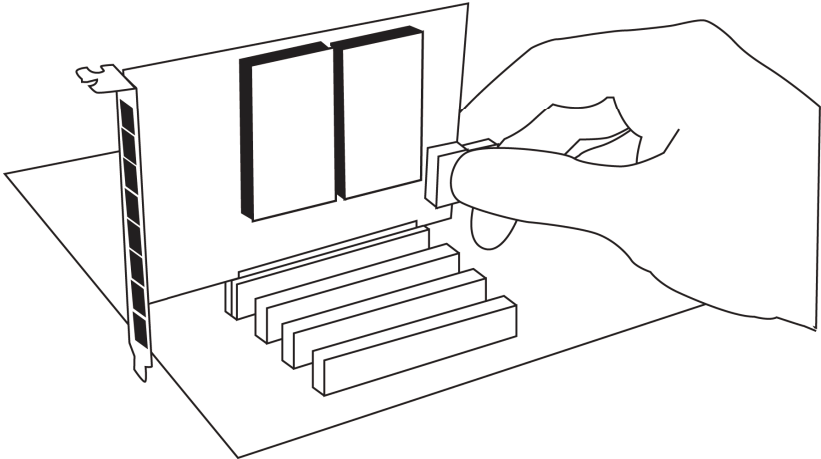

Figure 10: Connect Power for FXS Modules
4. If your card has any FXS modules, you will also need to connect the power cable from your computer's power supply to the back of the card. Insert a four-pin 12 volt connector (disk drive power supply cable, e.g. hard drive) into the white plastic connector on the rear of the card. See Figure 10.